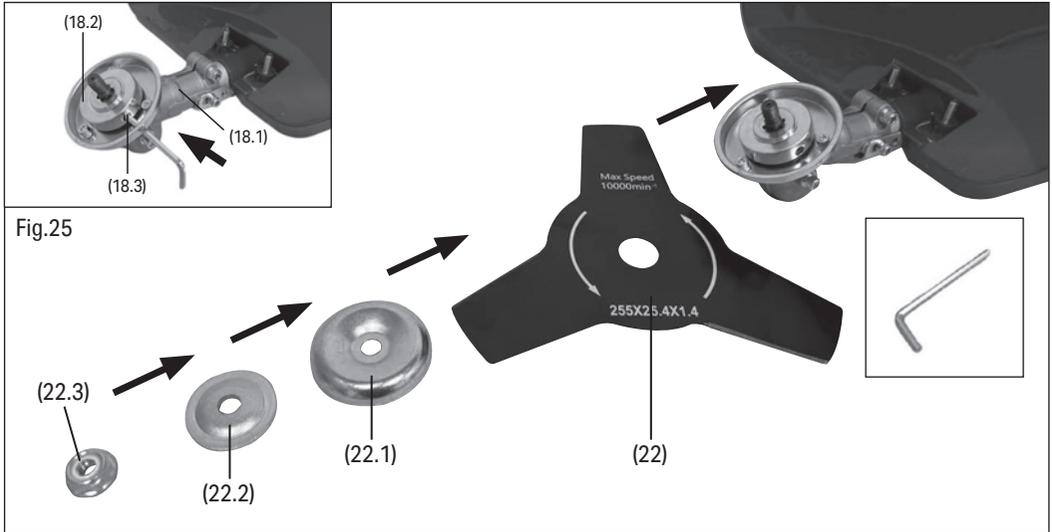
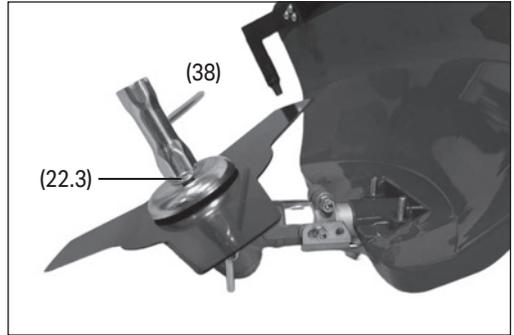

Fig.24
Fig.26
10.1 Fitting the Cutting Blade (Fig.24 – Fig.26)